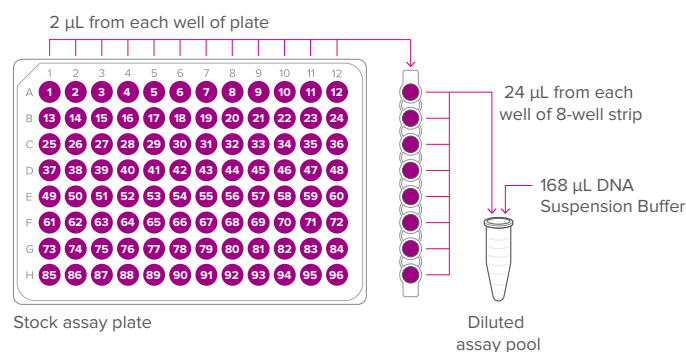

Figure 1. Example dilution of a 96-assay pool
- 2 In a DNA-free hood, dilute each pool of stock assays with DNA Suspension Buffer as calculated in Table 1. An example using the recommended volume of 2 μL for each assay from a single 96-assay pool is shown in Figure 1.